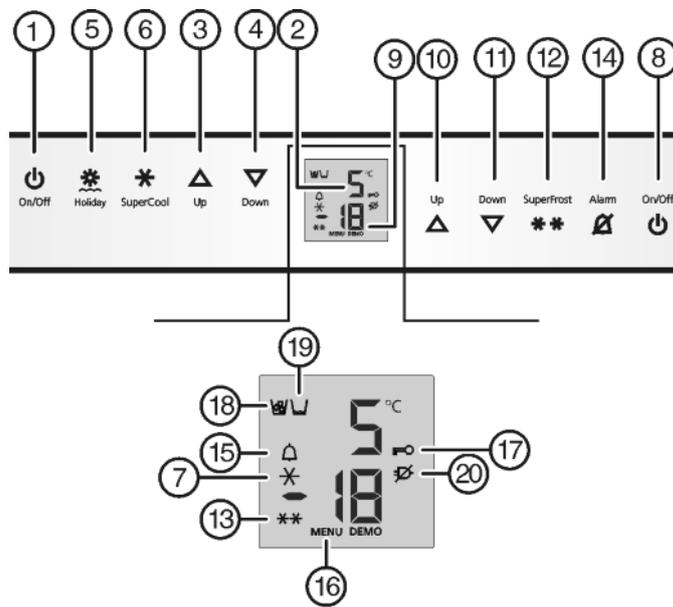

Fig. 2
- ▶ Press On/Off button, freezer compartment *Fig. 2 (8)*.
- ▶ Press On/Off button, refrigerator compartment *Fig. 2 (1)*.
- ▷ The fridge and BioFresh section are on: Fridge temperature display *Fig. 2 (2)* is on. When you open the door the interior light comes on.
- ▶ To activate the setting mode: press SuperFrost button *Fig. 2 (12)* for about 5 s.
▷ The menu symbol *Fig. 2 (16)* shines.
- ▶ Briefly press the SuperFrost button *Fig. 2 (12)* to confirm.
- ▶ To activate the child lock, briefly press the SuperFrost button *Fig. 2 (12)*.
▷ The child lock symbol *Fig. 2 (17)* shines. **c** flashes in the display.
- ▶ to deactivate the child lock, briefly press the SuperFrost button *Fig. 2 (12)*.
▷ The child lock symbol *Fig. 2 (17)* goes out. **c** flashes in the display.
- ▶ To deactivate the set-up mode: press On/Off button, freezer compartment *Fig. 2 (8)*.
- ▶ Press alarm button *Fig. 2 (14)*.
The temperature display and the alarm symbol *Fig. 2 (15)* flash at the same time.
The audible alarm is automatically silenced, the alarm symbol *Fig. 2 (15)* goes out and the temperature display stops flashing when the temperature is sufficiently cold again.